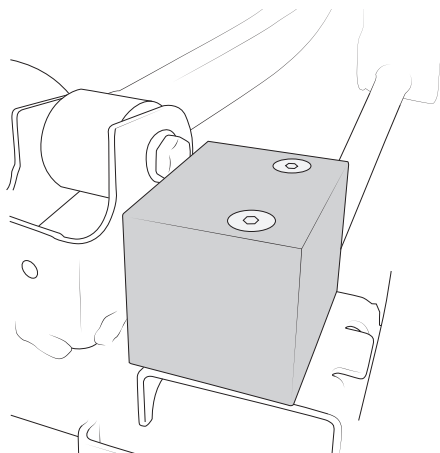

Figure 36
- F. Install new Bump Stop Spacers on the rear axle as shown (Fig. 36) using the supplied hardware. DO NOT reverse the orientation from what is shown (screws should be inboard.)